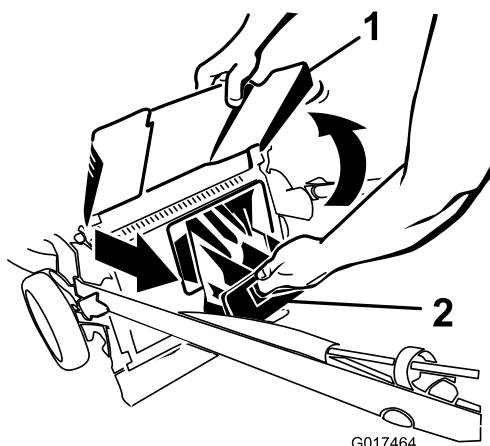

Figure 21
2. Raise and hold up the discharge deflector (Figure 21).
3. Pull out the rear-discharge plug (Figure 21).